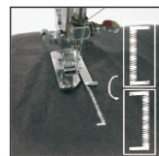

Fig.20
- (5) Raise the presser foot, rotating the cloth for 180° (Fig.20)